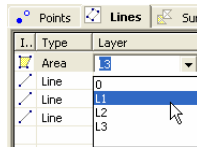

Figure 4-43. Selecting a Layer in the Line Tab
- Double-click in the *Layer* column and select a different layer from the drop-down list in the left panel of the *Line* tab (Figure 4-43).